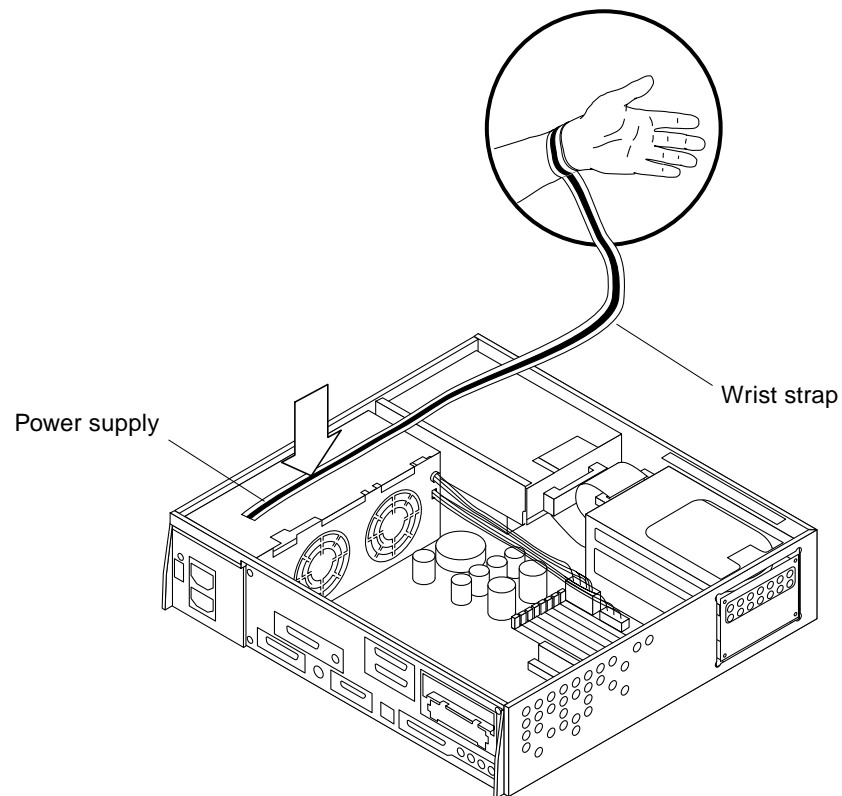

Figure 2-3 Attaching the Wrist Strap
- 2. Unwrap the first two folds of the wrist strap and wrap the adhesive side firmly against your left wrist (Figure 2-3).**